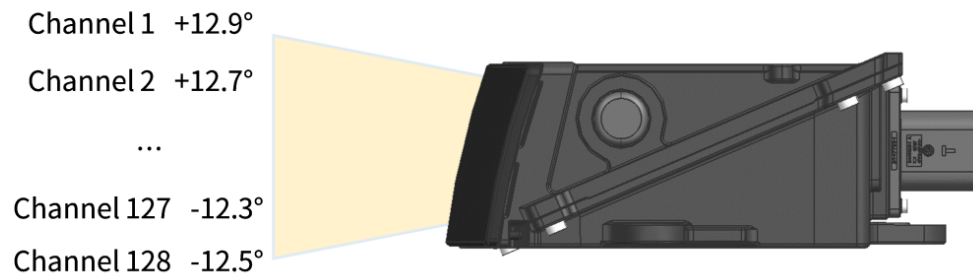

Figure 4. Channel vertical distribution
- The designed vertical resolution is shown in Figure 4 and detailed in Appendix A Channel distribution data.